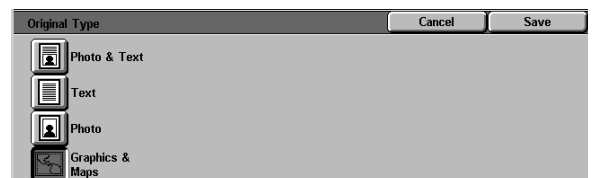

Figure 11: Graphics & Maps icon selected
- 2 Touch the **Graphics & Maps** icon, as illustrated in Figure 11.